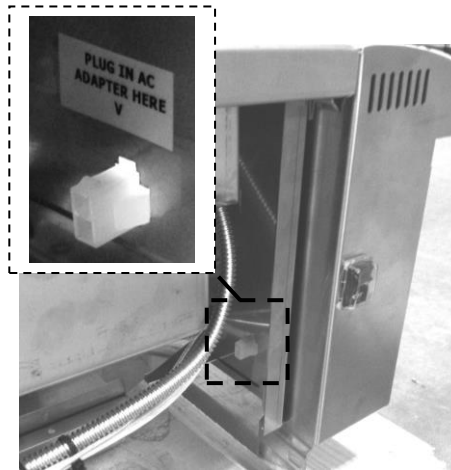

Fig. 2
- Make the transformer connections to the wire harness plug located at the left rear of the front panel to the harness of the transformer box. (Fig. 2)